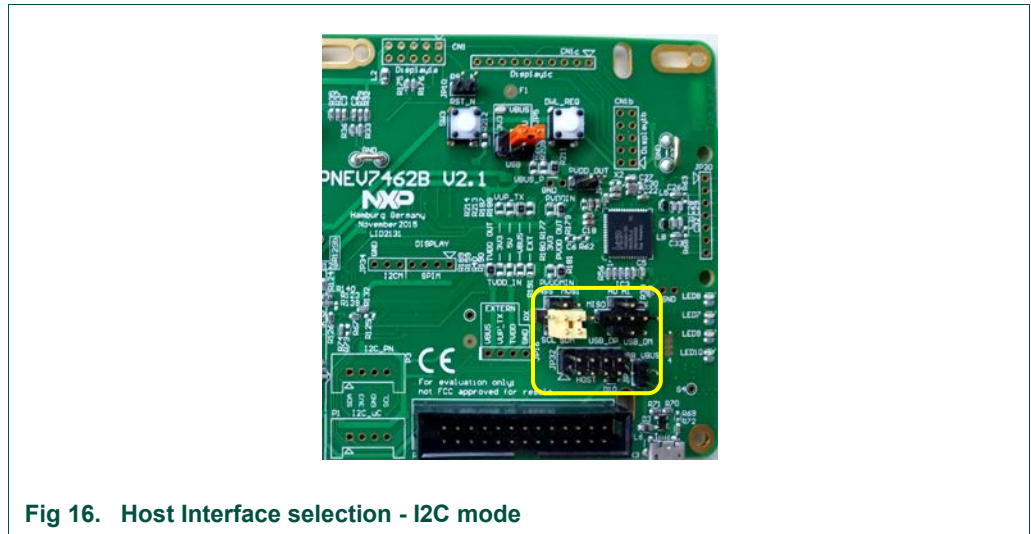

Fig 16. Host Interface selection - I2C mode
The yellow marked jumpers (Fig 16) needs to be set for using the I2C host interface of the chip. This will connect the I2C SCL of the PN7462AU to the I/O P0 (28) and also the SDA of the PN7642AU to the I/O P0(27) of the LPCXpresso board.